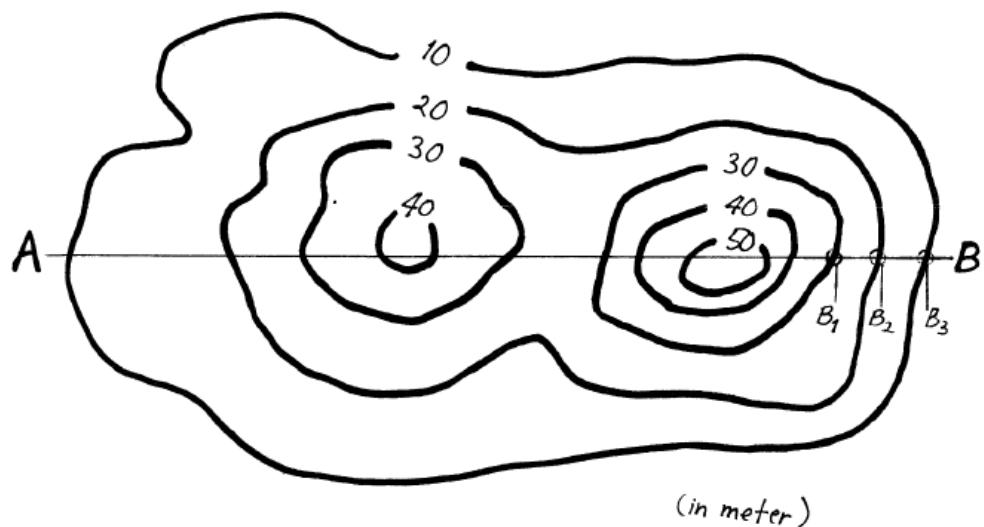

Figure 1 Contour
1. (a) As a first step of identifying route location to conduct office study of existing Information you are given a contour plot shown in Figure 1. Sketch the horizontal and vertical alignment at cross section **A-B**.
- (b) Based on the field survey and road design, typical cross sections (**B1**, **B2** and **B3**) are shown in Figure 1 and Figure 2. Table 1 shows data of cut and fill areas. The distance between section is 75 meter. You are asked to determine the total volume (m^3) of cut and fill.
- (c) Using the sketch of Figure 1, locate a suitable route location from **A** to **B** with only one horizontal curve. Discuss your answer.